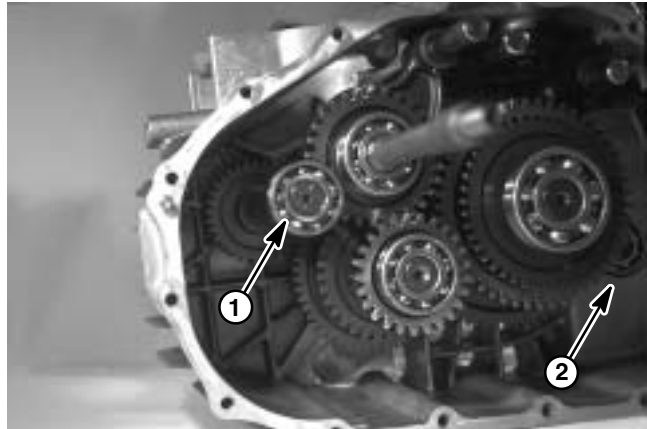

Figure 92
19. **On 4WD vehicles**, install bearing to gear case (see Item 2 of Fig. 92) and center plate. Install front drive shaft and 41T gear to the gear case.